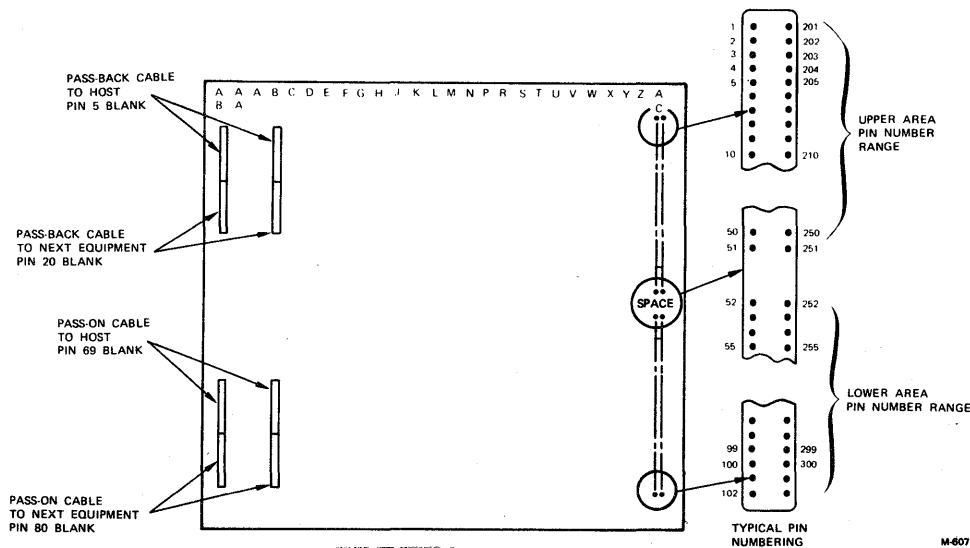

Figure 3-2. 5-Foot Coaxial Cables on Synchronizer
3. Install coaxial cables (figure 3-2) on connectors at rear of card cage.
1. Plug P1 of jumper cable 74870828 into pins 280 through 294 of slot AA (figure 3-2). The top conductor should be connected to the top pin.